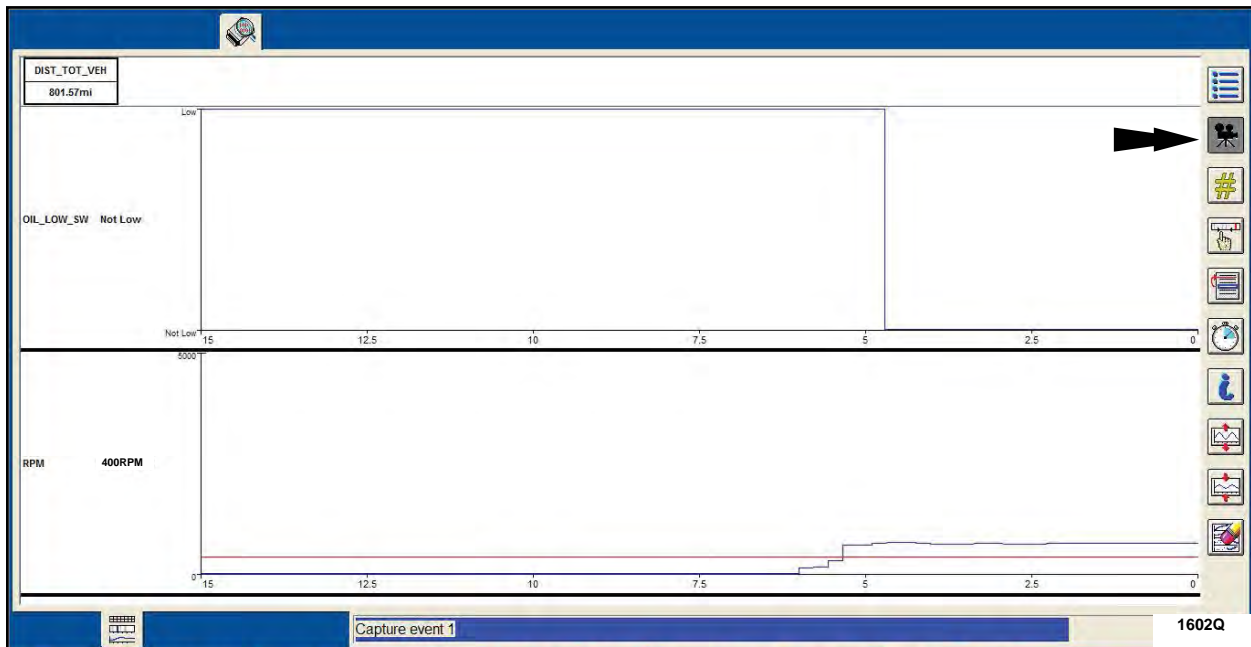

FIGURE 10
NOTE: Do not start the engine until the DIST_TOT_VEH (DIST) PID, OIL_LOW_SW (MODE) PID and the RPM (RPM) PID are displayed in graph form as shown in Figure 10.
9. Once the OIL_LOW_SW (MODE) PID and the RPM (RPM) PID are displayed in graph form, start the engine and the recording will automatically begin when the engine RPM reaches 400. See Figure 10.